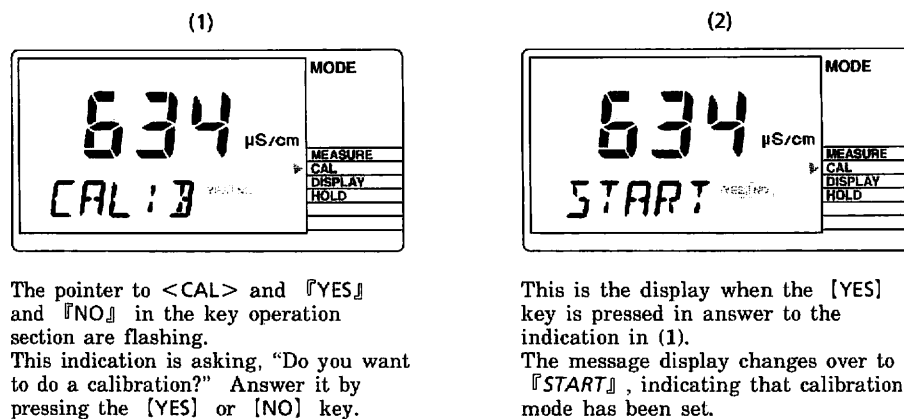

Figure 1.4 Example of Indication at Operation Level
1. Press the [MODE] key once. The display shown in Figure 1.4 (1) appears.
2. Press the [NO] key for the display in Figure 1.4 (1). Every time the [NO] key is pressed, the display changes, and after completing one round, the display returns to that of Figure 1.4 (1).